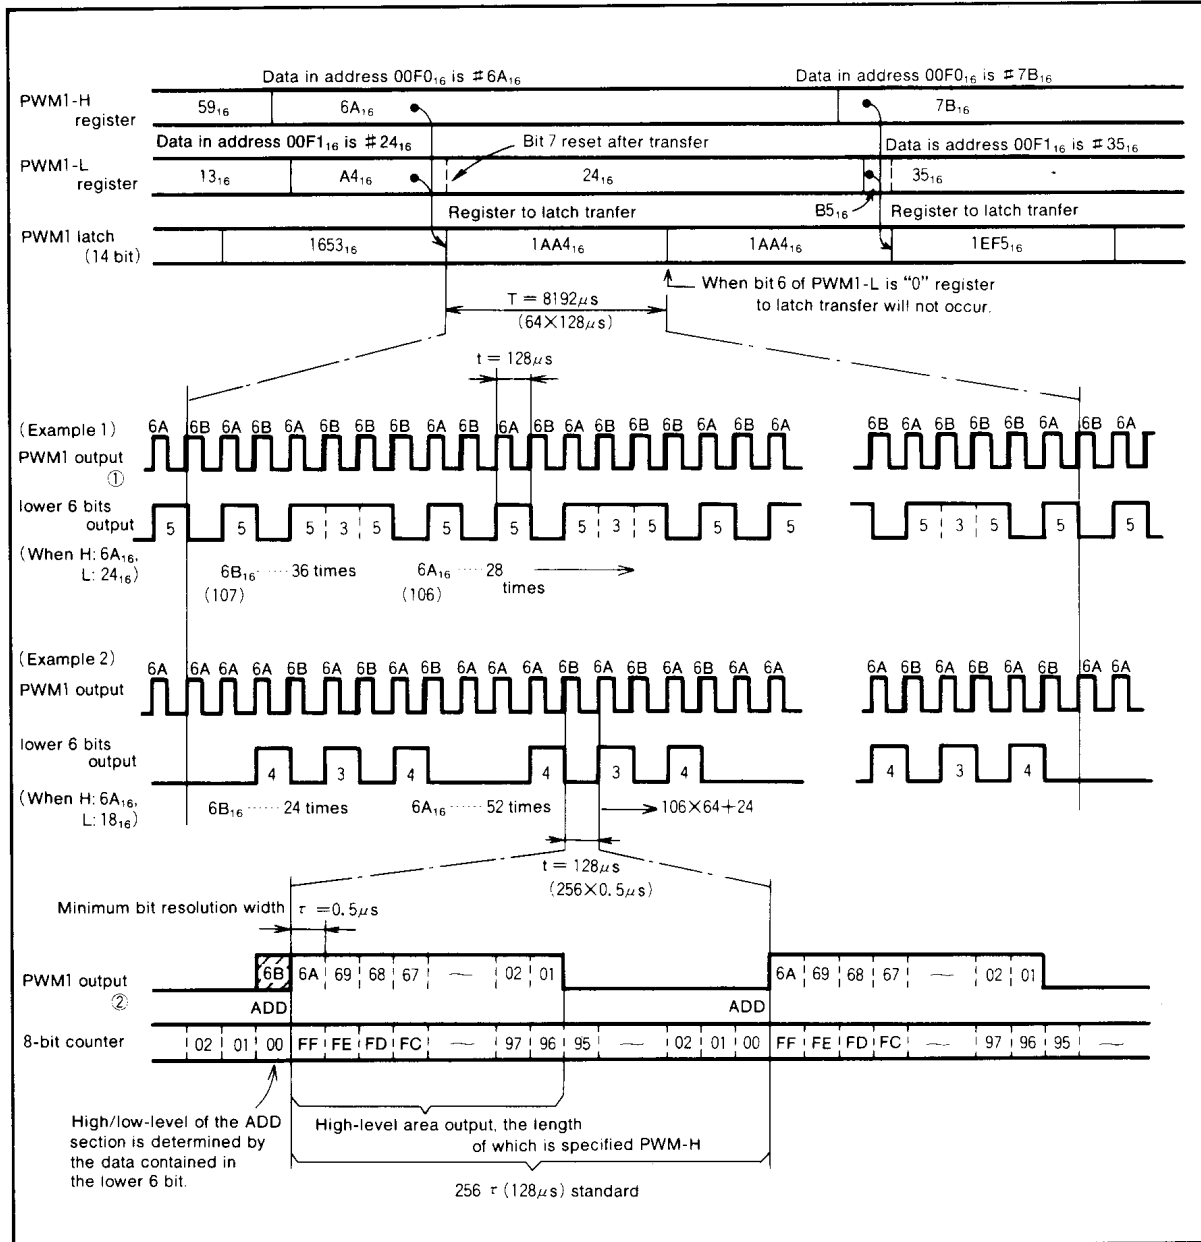

Fig. 17 14-bit PWM timing diagram
The timing diagram of the 14-bit PWM1 is shown in Figure 17. The 14-bit PWM divides the data within the PWM latch into the lower 6 bits and higher 8 bits.
A high-level area within a length N timers τ is output every short area of $t=256 \tau=128\mu\text{s}$ as determined by data N of the higher 8 bits. (Refer to PWM output ② in the lower part of Figure 17.)